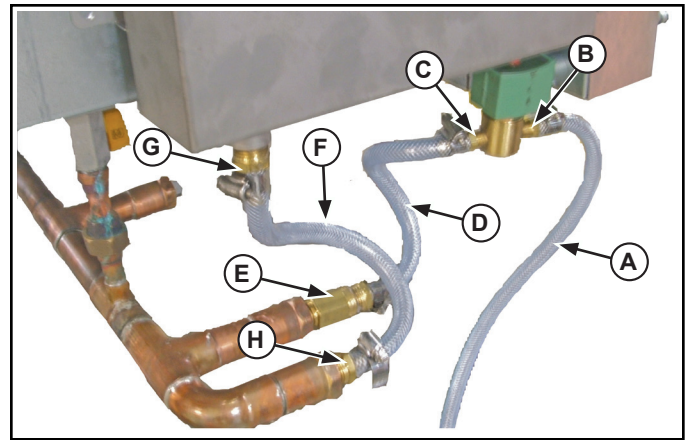

Figure 4. Solenoid Valve, Flexible Hose, and Fittings.
8. Using the section of the flexible hose marked and/or coming from outlet (E) side of the water tank, route this line to an OPEN FLOOR DRAIN. This drain MUST not be directly plumbed to the auto fill unit. This is done to prevent contamination of the fresh water supply. See Figure 4.
9. Using the section of the flexible hose (A) coming from the "IN" or "I" side of the solenoid (B) connect this hose to your fresh water source. See Figure 4.